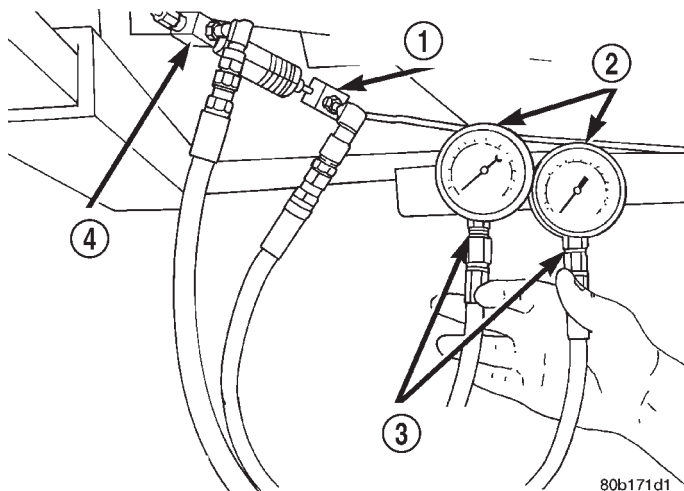

Fig. 21 Pressure Gauges Installed On Pressure Test Fittings
(8) Install a Pressure Gauge, Special Tool C-4007-A into each pressure test fitting (Fig. 21). Bleed air out of hose from pressure test fitting to pressure gauge, at pressure gauge to remove all trapped air.